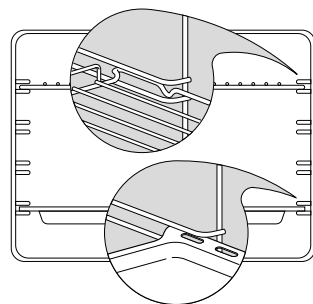

Fig. 10 Correct position of shelves and pan
- Put in the shelves and trays. If you are not using the sliding shelf supports, then slide in the shelves and grill pan as shown in Fig. 10. Fit them between the metal runners, with the safety stop notch down and at the back. (If the shelf supports and catalytic panels are not already fitted, see 'Care and cleaning' for how to do this).